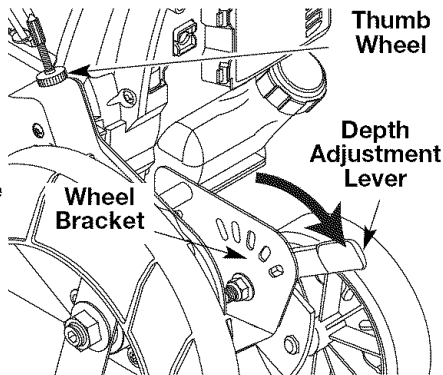
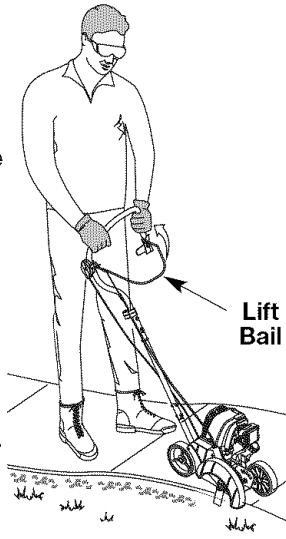

Fig. 17
Fig. 16
Before operating the unit, stand in the operating position (Fig. 16). Check for the following:
- The edger wheel adjusted for proper cut depth as shown in Figure 17 and edger positioned as shown in Fig. 16.
1. Grasp the depth adjustment lever located beside the front wheel (Fig. 17).
2. To raise the cutting blade, move the lever toward the front of the wheel bracket (Fig. 17).
2. Lift the bail (Fig. 16) and hold it against the unit's handle to engage the blade and keep it rotating.
1. Locate small thumb wheel on top of the belt housing (Fig. 17).